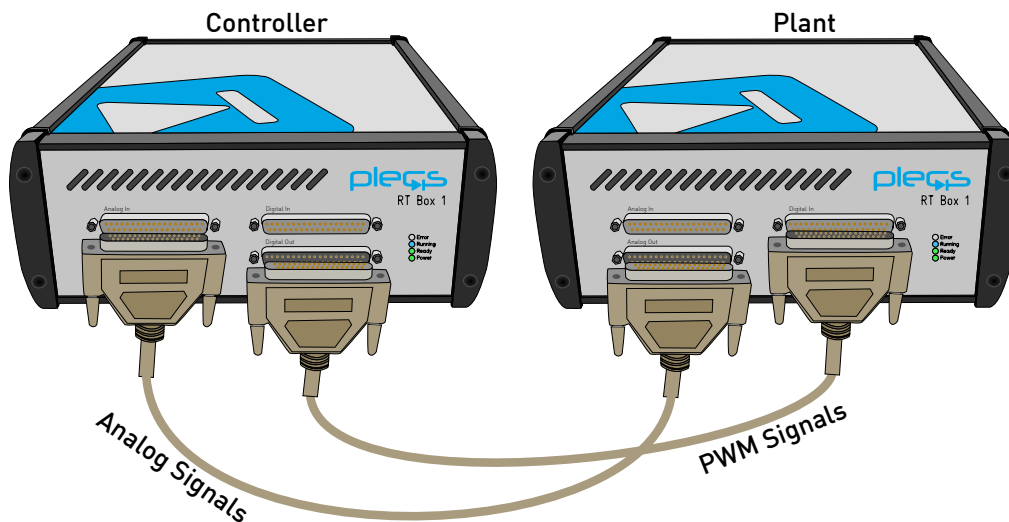

Figure 5: Hardware configuration for the real-time operation of the demo model
This model can run both, in offline mode on a computer or in real-time mode on the PLECS RT Box. For the real-time operation, two RT Boxes (referred to as “Plant” and “Controller”) need to be set up as demonstrated in Fig. 5. Please follow the instructions below to run a real-time model on two RT Boxes:
- Connect the Analog Out interface of the “Plant” RT Box to the Analog In interface of the “Controller” RT Box, and the Digital In interface of the “Plant” RT Box to the Digital Out interface of the “Controller” RT Box (e.g. using two DB37 cables shown in Fig. 5).